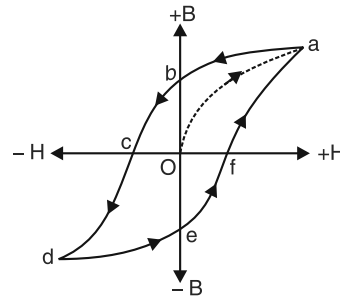

Fig. 8.44
24. In Fig. 8.44, the point ..... represents the saturation condition.
25. In Fig. 8.44, ..... represents the residual magnetism.
26. In Fig. 8.44, oc represents the .....